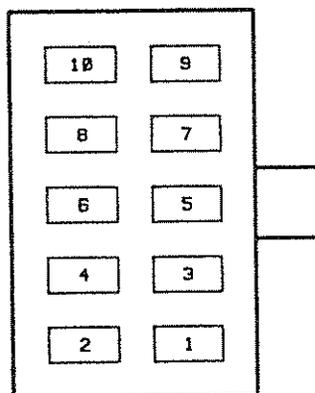

Figure 2-20. A1J18 and A1J19 Pin Identification Drawing
11. At A1J18 or A1J19, measure the voltages on the following pins: Pin 1, -12 volts; Pin 2, -5.2 volts; Pin 3, +5.8 volts, and Pin 4, +12 volts. See figure 2-20. The voltages should be approximately as shown. If the voltages are correct, continue with the next step. If the voltages are wrong, replace the A1 Control Board Assembly.